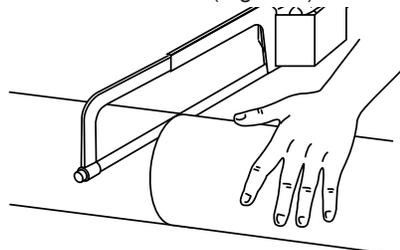

Figure 5
4. Carefully cut the outer conductor with a hacksaw. Make sure the cut is square or the flange will not seat properly on the outer conductor (Figure 5).
4. Cut the inner conductor at the marked position using a miter box and hacksaw. Make sure the cut is square (Figure 5).